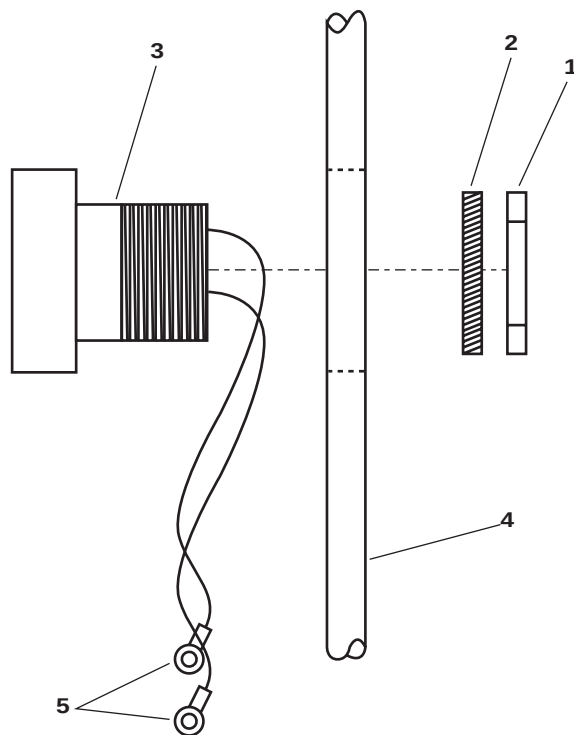

Figure 12. LED Replacement
6. Remove the nut (figure 12, item 1) and star washer (figure 12, item 2) and remove the LED (figure 12, item 3) and its integral wiring from the pilothouse alarm panel (figure 12, item 4). Discard the star washer.
1. Position the LED (figure 12, item 3) and its integral wiring in the pilothouse alarm panel (figure 12, item 4) and secure it with the nut (figure 12, item 1) and a new star washer (figure 12, item 2).
2. Crimp new solderless connectors to the wiring (figure 12, item 5) to match the connectors used on the removed LED (figure 12, item 3).